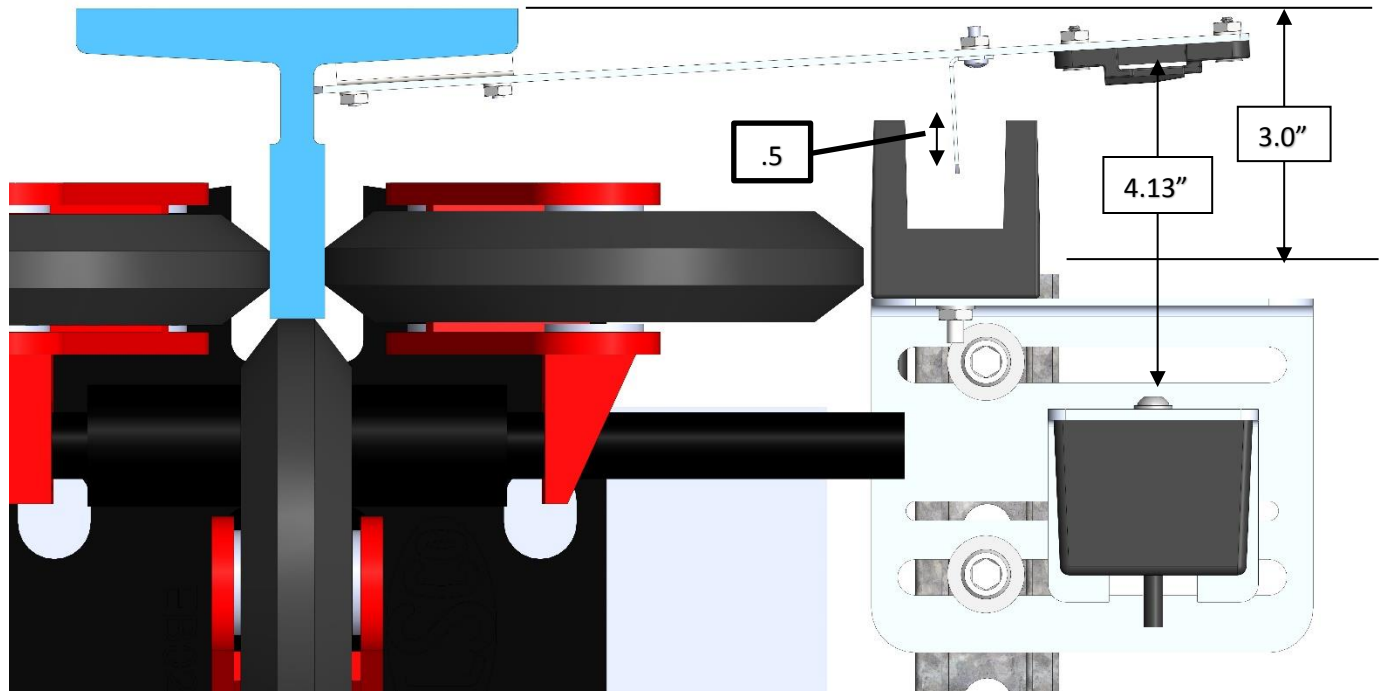

Figure 7: Sensor Array Assembly Positioning
- Note: Exact positioning and lengths of Unistrut can be adjusted as needed as long as the Sensor Array is positioned as shown in figure 7.
- Temporarily affix a Tape Clip Assembly onto the guide rail to use as alignment for the Sensor Array Assembly. See figure 7.
- Set the end of the 24" Unistrut at 3.0" from the rear surface of the guide rail as shown in figure 7.
- Loosely bolt the Sensor Array Assembly onto the 24" Unistrut with the Door Zone Blade centered horizontally in the GLS Reader as shown in figure 7.
- Position the Sensor Array at the distances shown in figure 7 then tighten all bolts. Note: the Optical Sensor Mount bolts may be loosened if needed to adjust the position of the sensor.